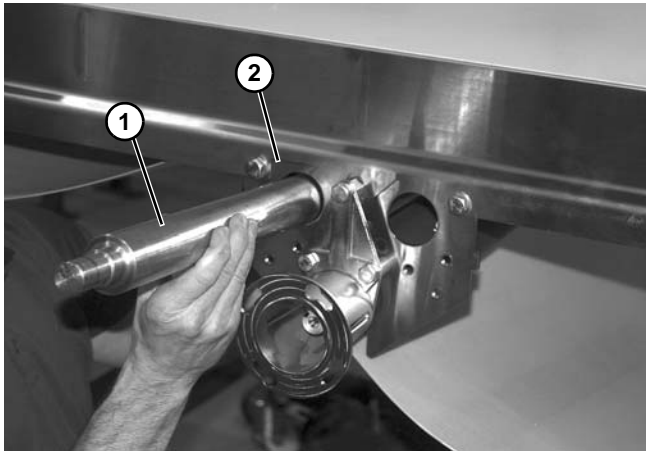

Figure 177
7. Remove two idler spindles (**Figure 177, item 1**) from center drive plates (**Figure 177, item 2**).